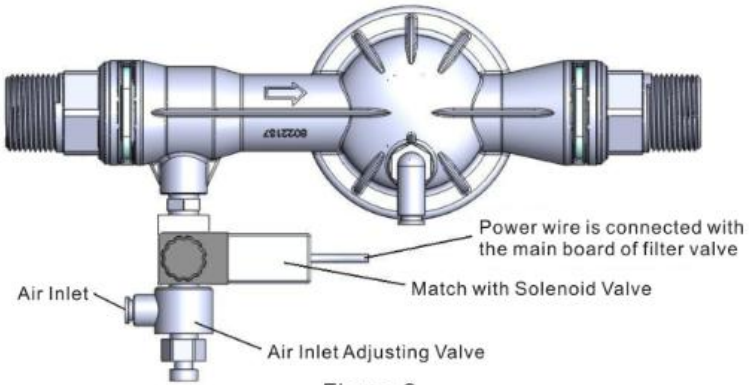

Figure 2
As Figure 2 shows, install a two passages solenoid valve on air inlet. When water tank is full of water or equipment stop working or electricity service interrupted, the filter valve program will control the solenoid valve to cut off compressed air goes into aeration tank, preventing the compressed air drain all of water in aeration tank and filter tank.
C. Ensure the opening degree of air inlet adjusting valve shown in Figure 2. It can adjust the opening degree based on the iron and manganese removal effect, adjusting the air inlet volume. The opening degree should not be too large, avoiding affecting the inlet water.